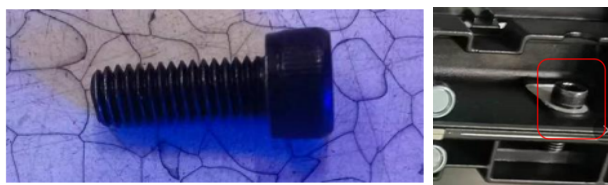

Fig 2-11 M6*16 hexagon bolt
- 2) Assemble the screen by building the cabinets from the bottom to the top and from the middle to both sides successively. Fix the curving connection plate (Fig 2-12) to the cabinet with M6*16 hexagon bolt (Fig 2-11), see below Fig 10 showing concave curving between cabinet.
- 4) After the first row of cabinets are installed, start to set up the second row of cabinets, and finally fix the vertical cabinets with M6*16 hexagon bolt (Fig 2-11).